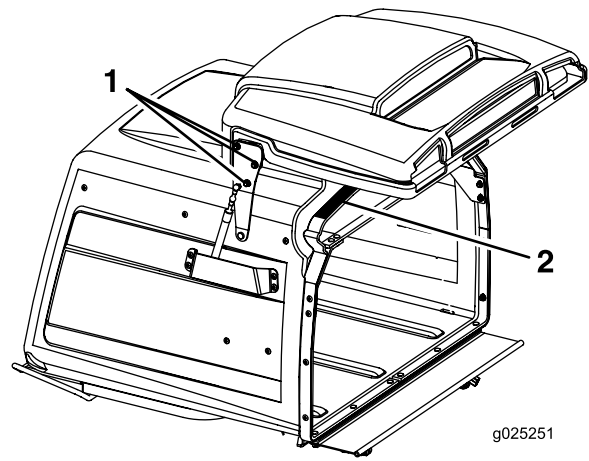

Figure 66
3. Loosen the 6 door hinge nuts (Figure 66).
4. Open the door and place a 3/8 inch rubber strip or 3/8 inch diameter hose between the hopper and the hopper door (Figure 66).